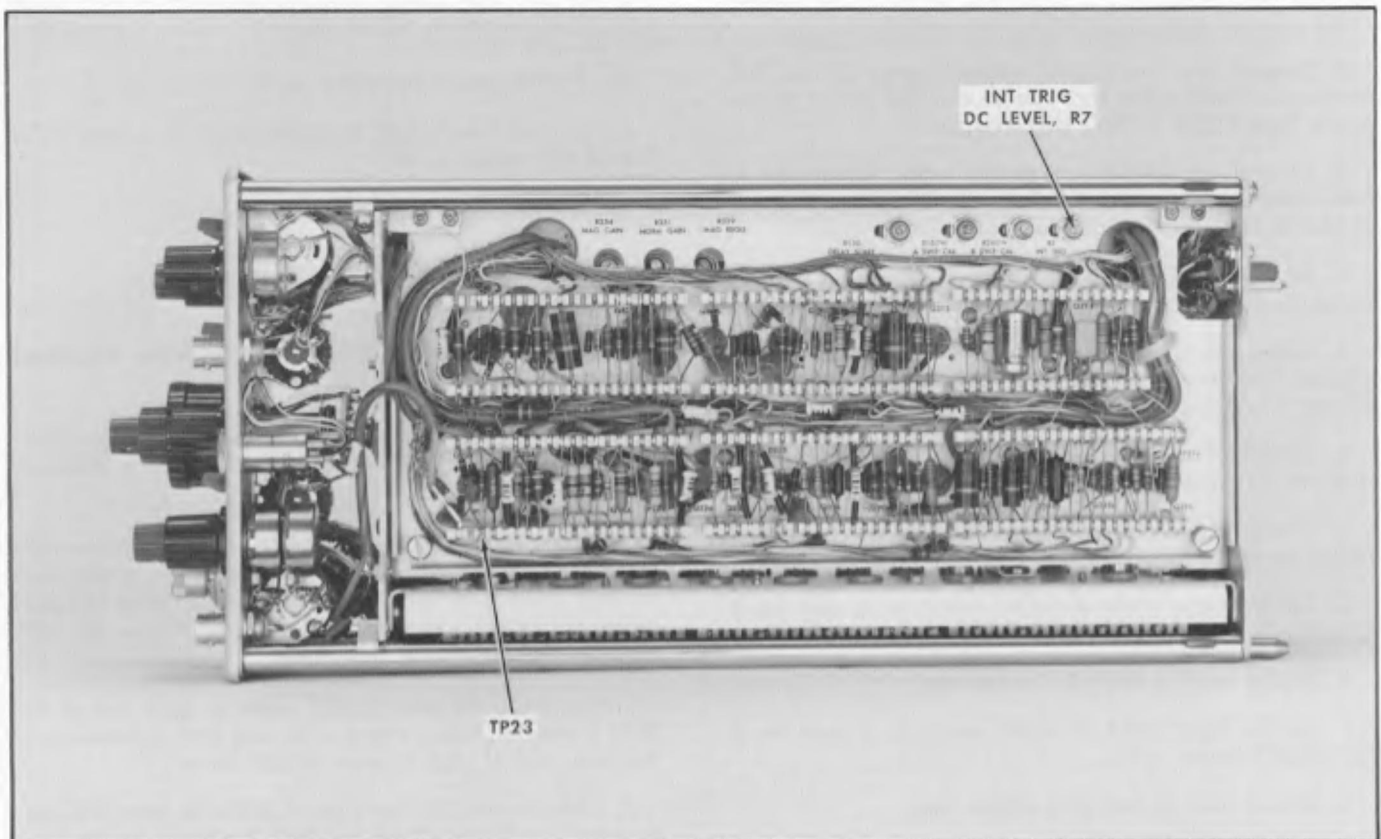

Fig. 6-3. Location of Int Trig DC Level, R7 and test point TP23.
- Connect a DC voltmeter between ground and TP23, see Fig. 6-3 (test point on emitter of Q23B).
- ADJUST—Int Trig DC Level control, R7 (see Fig. 6-3) for a voltmeter reading of zero volt.
- f. Remove the 10 \times probe tip from ground and connect it to TP23; see Fig. 6-3 (test point on emitter of Q23B).